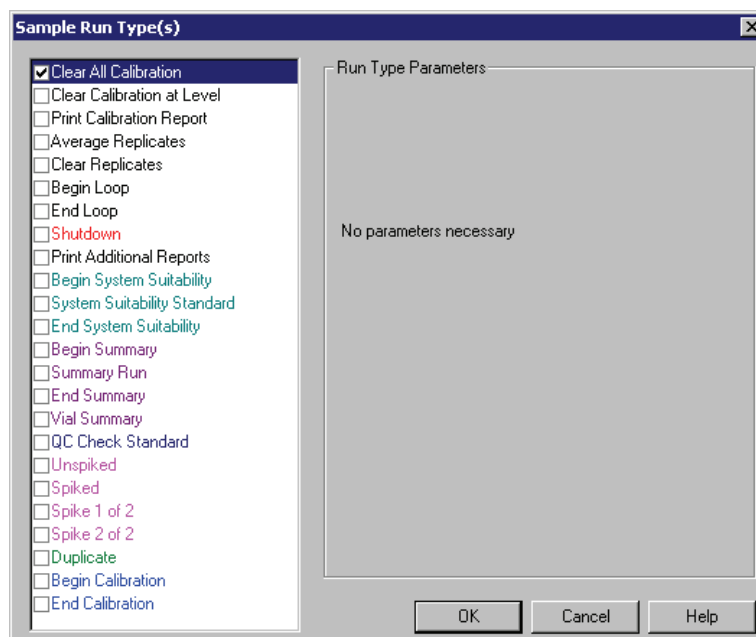

Figure 8.3 Sample Run Types dialog
15. Click in the **Run Type** column of line 1. The dialog shown in Figure 8.3 will open. The items here are the available run types.